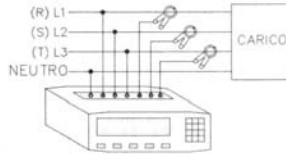

Fig 3.4
The connections are made as shown in figure 3.4.
N.B.: A connection with 3 clamp meters as shown in figure 3.4 can also be made in a 3-wire system without neutral.